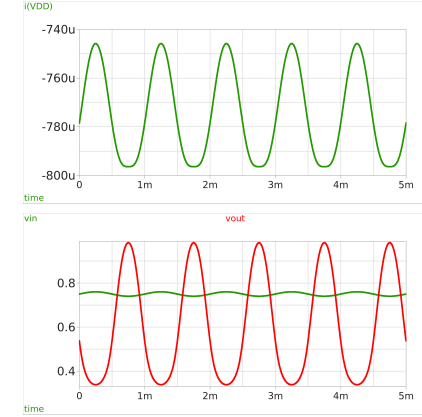

Figure 8: Testbench `inverter_tb_tran` (transient response).
- inverter_tb_tran.sch applies a small sine around the operating point and simulates in the time domain (see Figure 8).